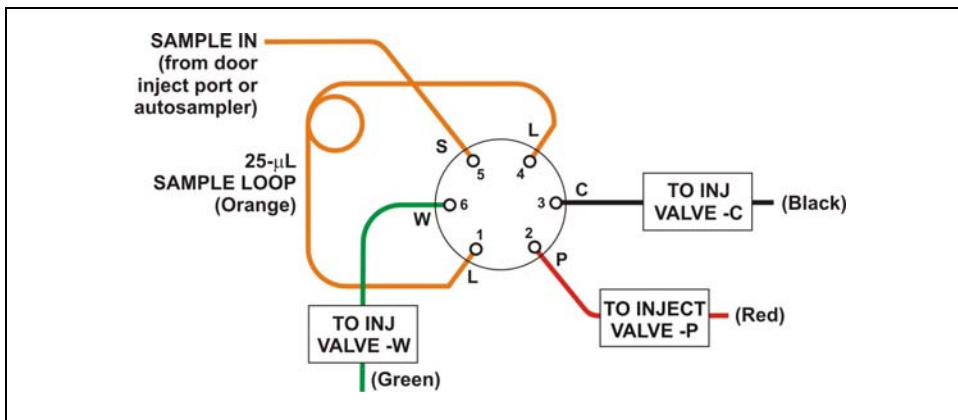

Figure 2-19. Injection Valve Plumbing
Figure 2-19 shows the injection valve connections. The injection valve is plumbed at the factory with all tubing and fittings for connection to the pump, injection port, column, and waste. A 25- μ L PEEKTM sample loop (P/N 042857) is installed between ports L (1) and L (4). Thermo Fisher Scientific offers sample loops in various sizes. If necessary, the pre-installed 25- μ L loop can be replaced with a loop that has a different sample injection volume.